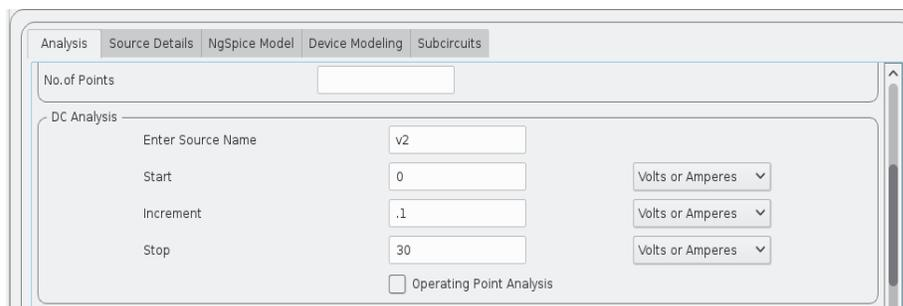

Figure 8.5: Choose DC analysis type and enter the values of V2
- **Drain Characteristics:** Give the values of DC variables as shown in Figure 8.5. Enter the name of your DC source **V2** and let its value be varied from 0V to 30V with a step of 0.1 V.